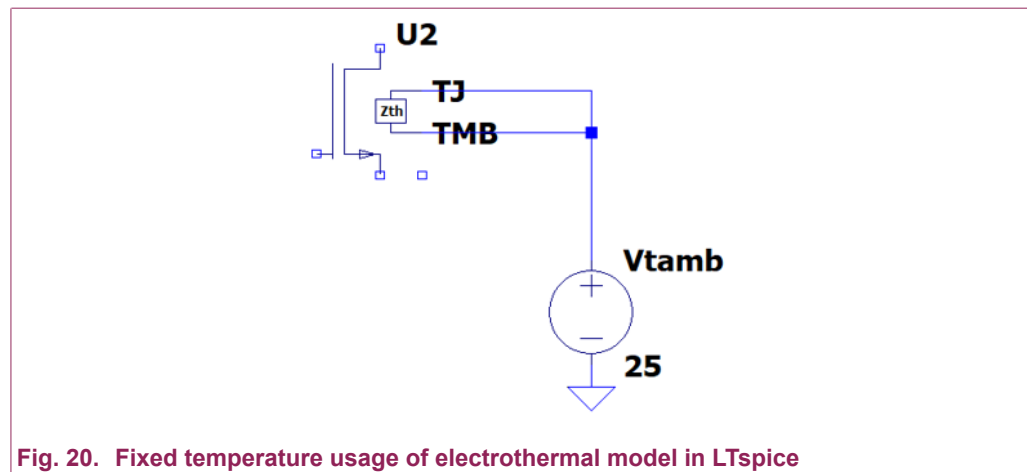

Fig. 20. Fixed temperature usage of electrothermal model in LTspice
2. Both TMB and TJ are connected to a constant voltage source. In this case we fix the temperature of the device at the value of the voltage source, see Fig. 20.